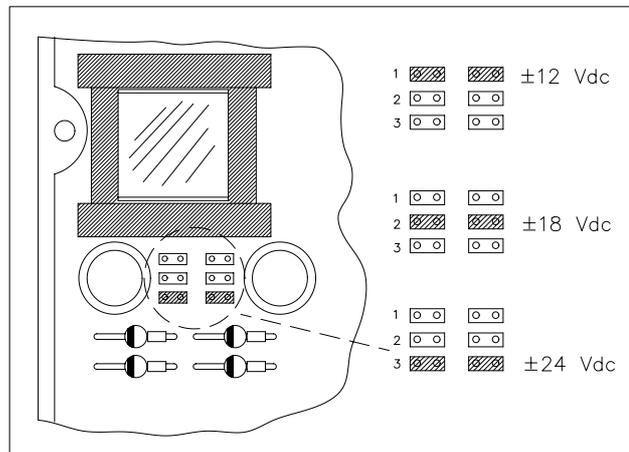

Fig. 2 The part of the PCB showing the position of the jumpers
3. Remove and place the jumpers in position 1 for ± 12 V dc or in position 2 for ± 18 V dc according to fig. 2
Please note that it is not possible to get the different voltage levels for + and - by placing the jumpers in two different position. Both the jumpers must be in the position as it is shown in fig. 2